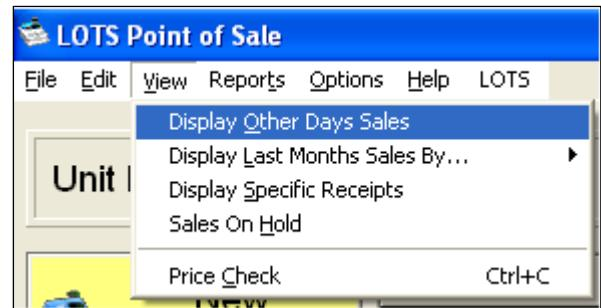

Figure 122
1. From the 'LOTS Point of Sale' screen select the View drop down menu → Display Other Days Sales (as shown in Figure 122).